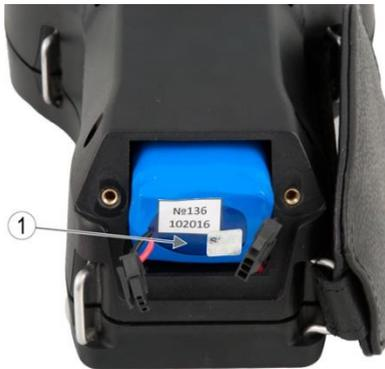

Fig. 41
7. Remove the battery pack (item 1 Figure 41).